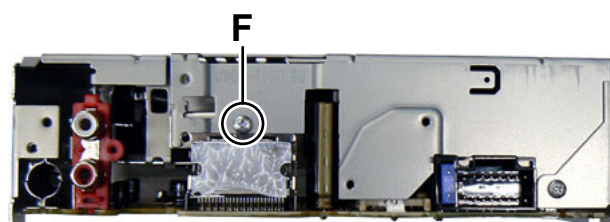

Fig.4
3.1.4 Removing the Main board (See Fig.4, 5)
- (1) Remove the one screw **F** attaching the main board. (See Fig.4)